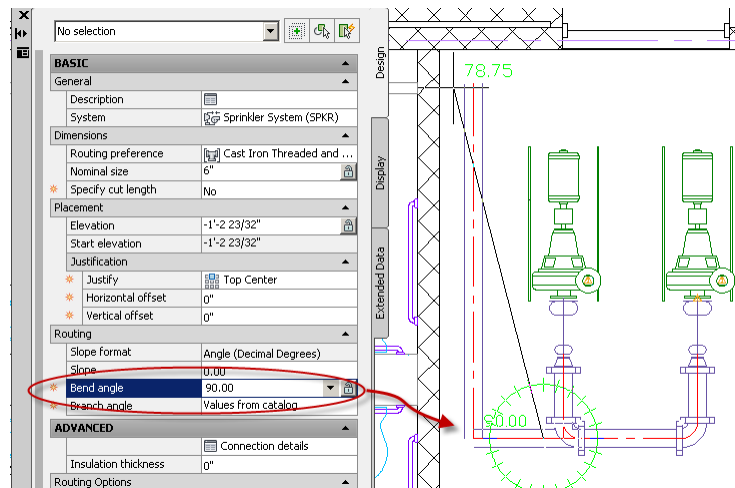

Figure 6.44
27. In the palette, set the bend angle to 90 (see Figure 6.44).
28. Make sure ortho is off (F8), and then click a point near the corner of the room as shown in (see Figure 6.44).